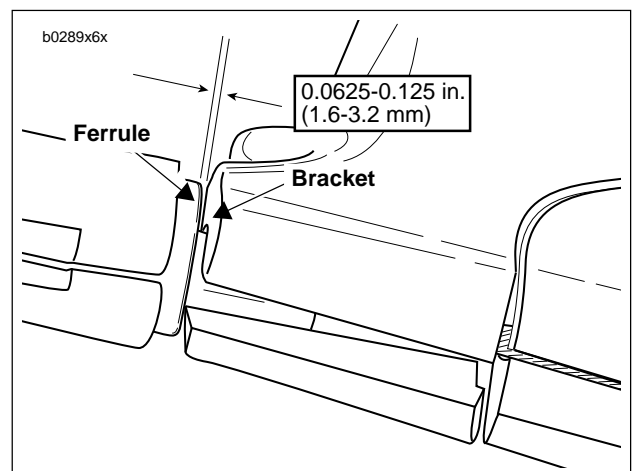

Figure 1-22. Adjusting Clutch Freeplay
4. Remove spring (4) and lockplate (5). Turn adjusting screw (6) counterclockwise until it lightly bottoms.
5. Turn adjusting screw (6) clockwise 1/4 turn. Install lockplate (5) and spring (4) on adjusting screw flats. If hex on lockplate does not align with recess in outer ramp, rotate adjusting screw clockwise until it aligns.
- a. See Figure 1-22. Pull ferrule (1) (end of cable housing) away from bracket (2). Gap between ferrule and bracket should be 1/16-1/8 in. (1.6-3.2 mm).